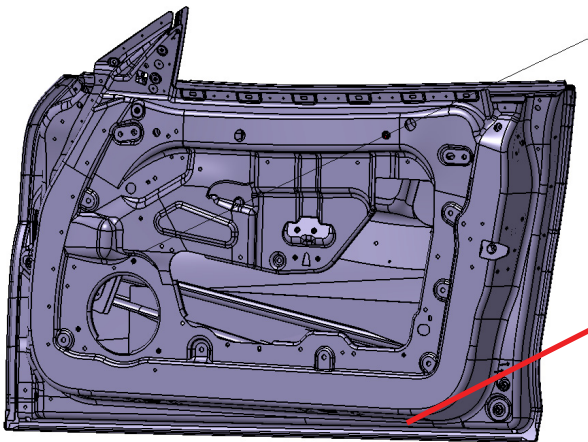

fig 6a
- 5) Adjust rear regulator mount, outboard as far as required to ensure proper glass alignment (fig 6a, 6b). Maintain clearance from the side impact bar, to avoid any interference (contact) or rattles.